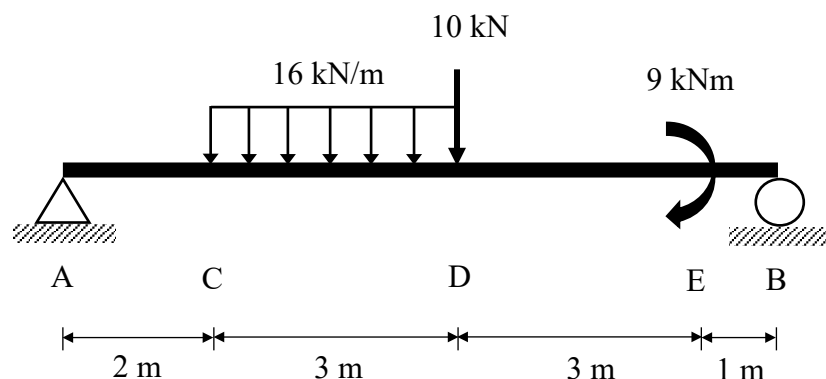

Figure A1(b) / Rajah A1(b)
- CLO1 (b) A simply supported beam AB 9 m long carries a point load, uniformly distributed load and moment as shown in Figure A1(b). With the aid of free body diagram, find out the reaction force at each support.